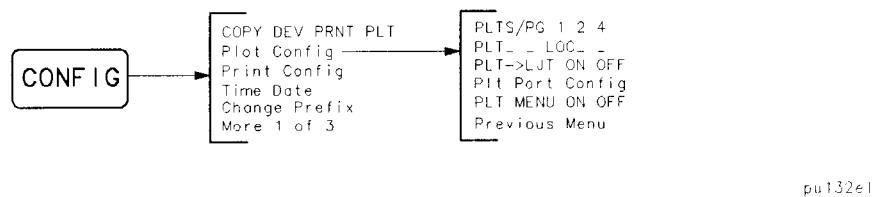

Figure 6-12. Plot Configure Menu
6. Referring to Figure 6-12 select the plotter configuration for your spectrum analyzer by pressing the appropriate keys: